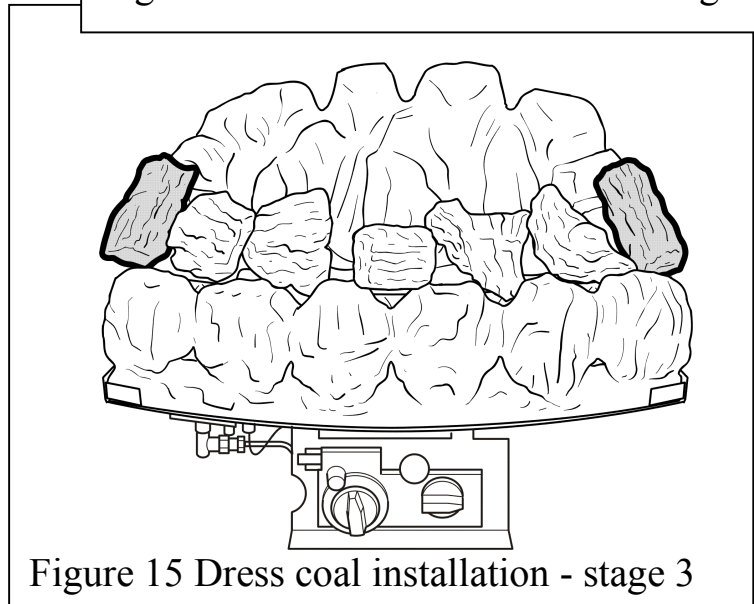

Figure 15 Dress coal installation - stage 3
3.3. Take both finger coals and place one at each end of the front row of coals as shown in figure 15. Make sure that they bridge across from the front coal to the matrix.